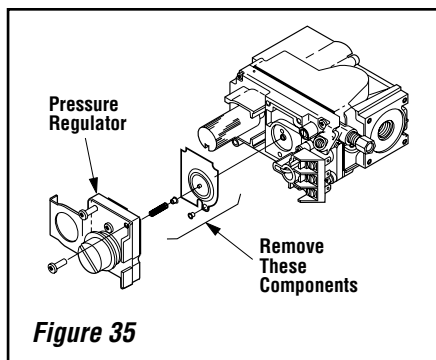

Figure 35
Step 4. Refer to **Figure 35** and the instructions provided with the kit. Using a Torx T20, remove and discard the three pressure regulator mounting screws. Remove the pressure regulator, spring, poppet, diaphragm and bushing. **Discard all removed components.** Ensure the rubber gasket installed on the back of the replacement pressure regulator is properly positioned and install the new pressure regulator using the new screws supplied with the kit. Tighten screws to 25 in-lbs of torque.